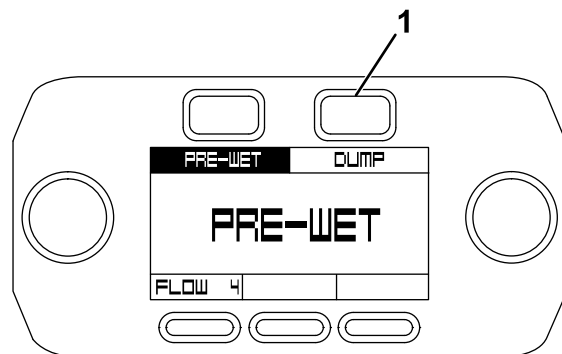

Figure 54
- On the pre-wet screen, press the Dump button (Figure 54).